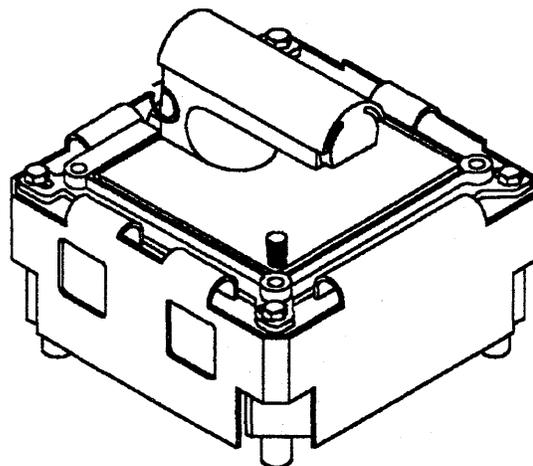

Figure 4-89. TCM Protection
12. Install the clip-on TCM cover (COTC) on the pin side of the TCM, (as shown Figure 4-89).